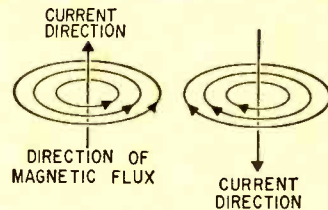

Fig. 20. Direction of flux lines is changed by direction of the current. Heavy current is needed to make flux lines visible with sprinkled filings.
**Electromagnetism.** Any electrical conductor through which flows an electrical current will generate a magnetic field about it which is perpendicular to its axis as shown in Fig. 20. The direction of this field is dependent upon the direction of current flow, and the magnetic field strength proportional to the current strength. If this current-carrying conductor is wound into a coil, forming a solenoid, the magnetic field will be increased by each individual turn that is added. If an iron core is inserted in this current carrying coil, the generated field will be increased still further. This is because the lines of force are concentrated within the iron core which has considerably less reluctance than the surrounding air.